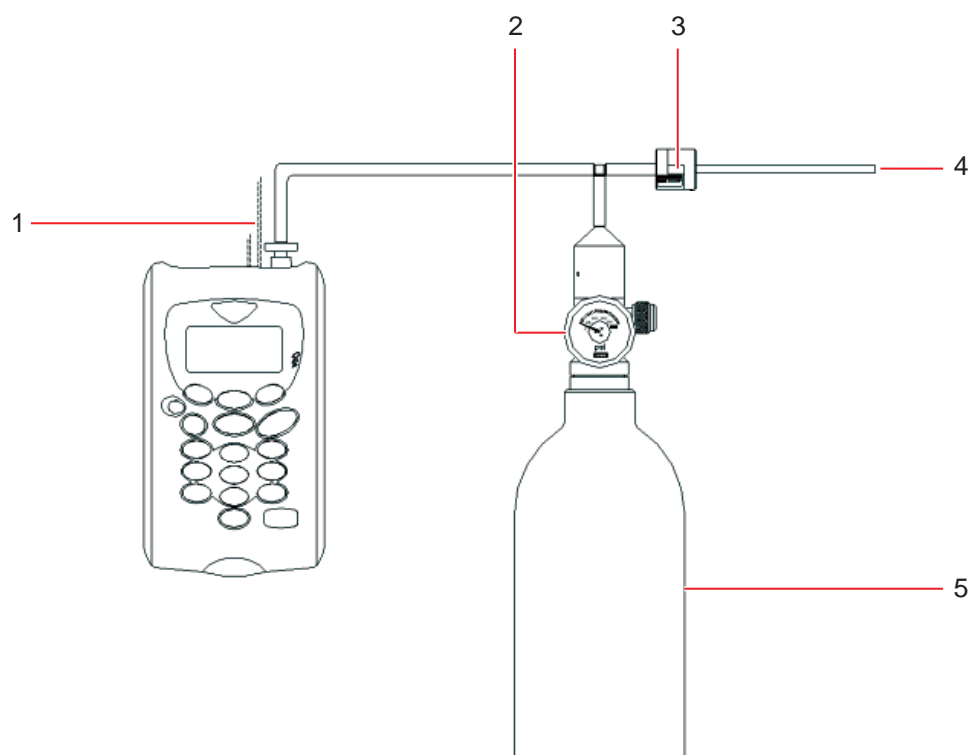

Fig. 5-20: Calibration Set-Up
1. If you need to perform the Zero with air, skip to step 2. To perform the Zero as recommended with N₂ or the soda lime filter kit, press the numeric **1** key (1-Zero with N₂), and attach the 100 % N₂ to the instrument's gas inlet (see Fig. 4-3 on p. 17) and (Fig. 5-20 on p. 41).